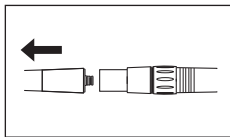

Fig. 19
- ⑤ Remove the handpiece from the coupling or hose (Fig. 19). Perform maintenance of the coupling according to the operation manual for the coupling.
- ⑥ Carry the handpiece to the decontamination area.